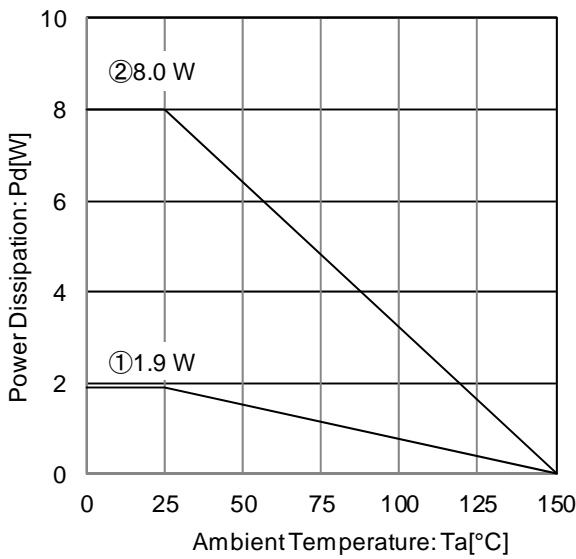

Figure 27. Package Data (TO263-3F)
At  $T_a=125^\circ\text{C}$  with Figure 27 ② condition, the calculation shows that ca 156mA of output current is possible at 10.2V potential difference across input and output.
At  $T_a=125^\circ\text{C}$  with Figure 27 ② condition, the calculation shows that ca 187mA of output current is possible at 8.5V potential difference across input and output.